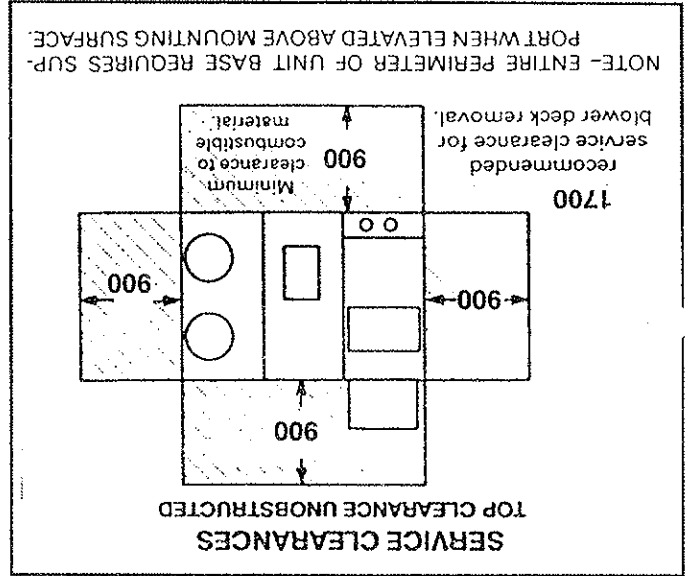

FIGURE 1
See figures 1 and 2 for unit clearances.
- 3 - Specified installation clearances must be maintained when installing units. Refer to figures 1 & 2